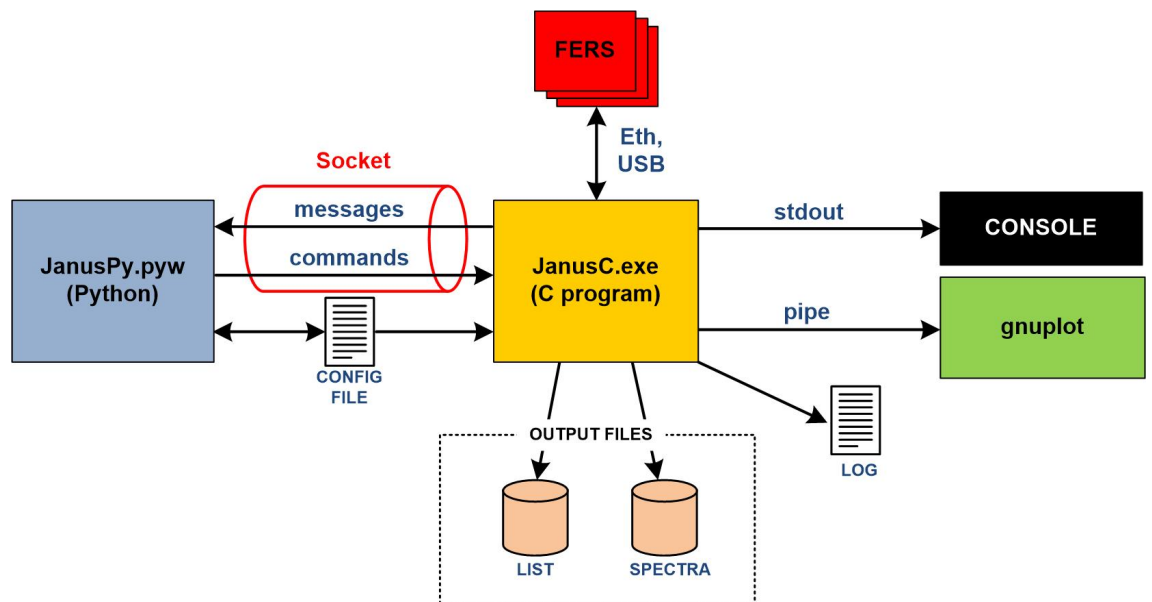

Fig. 1.3: GUI Mode block diagram.
- **GUI Mode:** In this case, the user only have to run the Python program "JanusPy.pyw", which calls the C program "JanusC.exe" and connects to it via a socket to send commands and receive messages which are then displayed in the Python GUI (see Fig. 1.3).